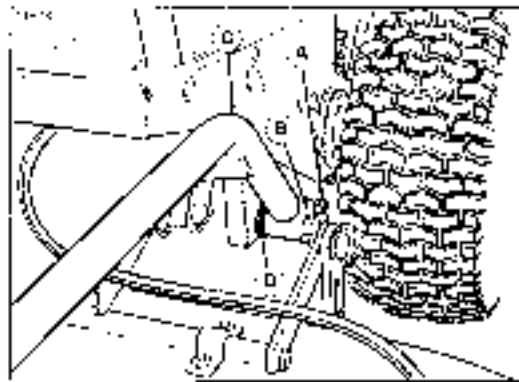

Figure 23. Hitch Arms
5. Remove the spring clip (A) and clevis pins (B) from mower lift arm (C). Refer to figure 23. Flip mower lift arm down. Remove large washer (D) from rider lift arm. For storage, install clevis pin (B) and spring clip (A) onto mower lift arm with large washer in between hardware.
6. Install mower deck arm to roller hitch arm. Refer to figure 23. Make sure large washer (figure 23) is placed on roller hitch arm. Secure with cotter pins and spring clips.